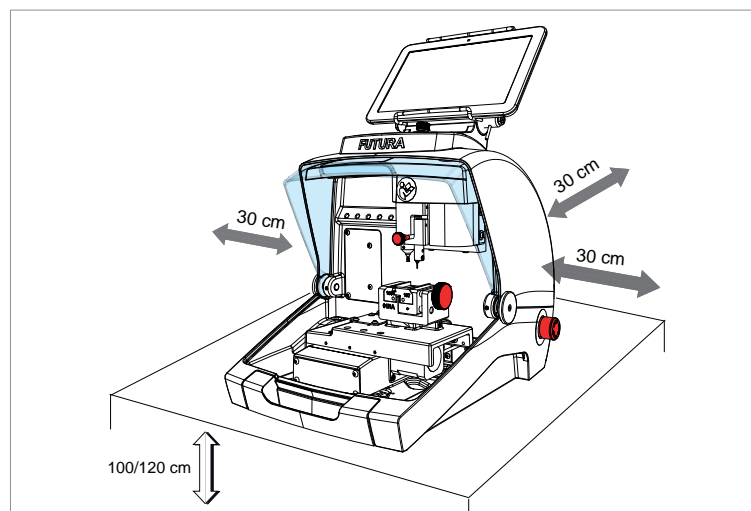

Fig. 10
- 1) Place the key-cutting machine on a solid horizontal work bench suitable for the weight of the machine (20 Kg). The work bench should be approximately 100-120 cm high to facilitate access to the working parts. We recommend leaving at least 30 cm clearance behind and around the machine to ensure good ventilation and facilitate handling (Fig. 10).